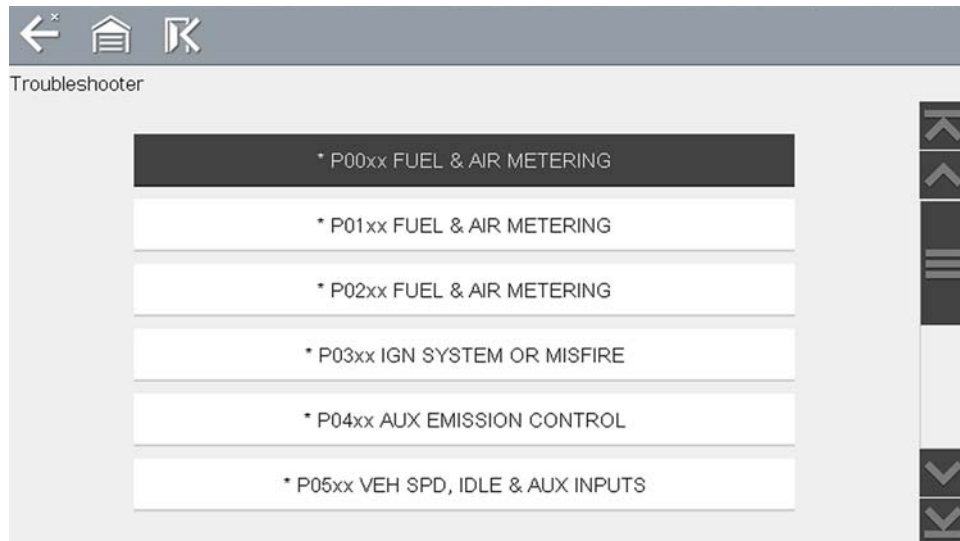
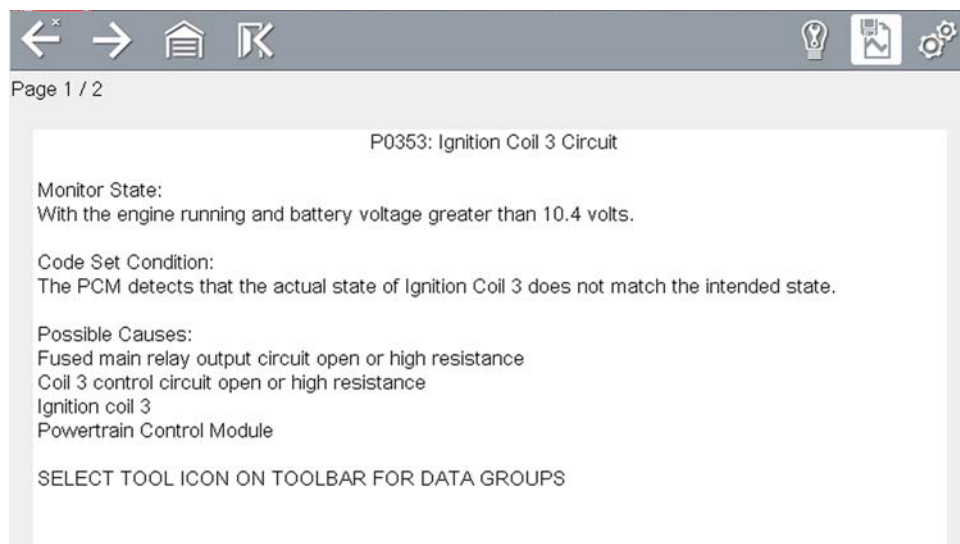

Figure 5-35 Troubleshooter code tip menu
Figure 5-36 Troubleshooter tip (Example: P0353)
- **Code Tips**—provides detailed information on setting conditions, testing, and interpreting test results for specific codes (Figure 5-35 and Figure 5-36).